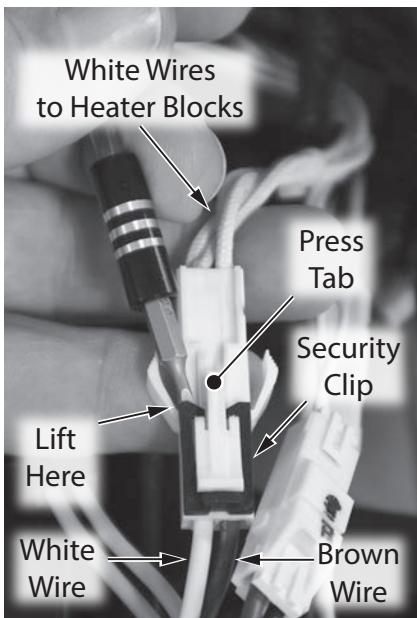

Figure 50 - Wiring security clip removal
- 13** To disconnect wiring harnesses B1 - B3, gently remove the security clip with a mini pick or fingernail. Push tab as shown in Figure 50. Separate the harnesses. Place security clip aside in a safe place for reinstallation.